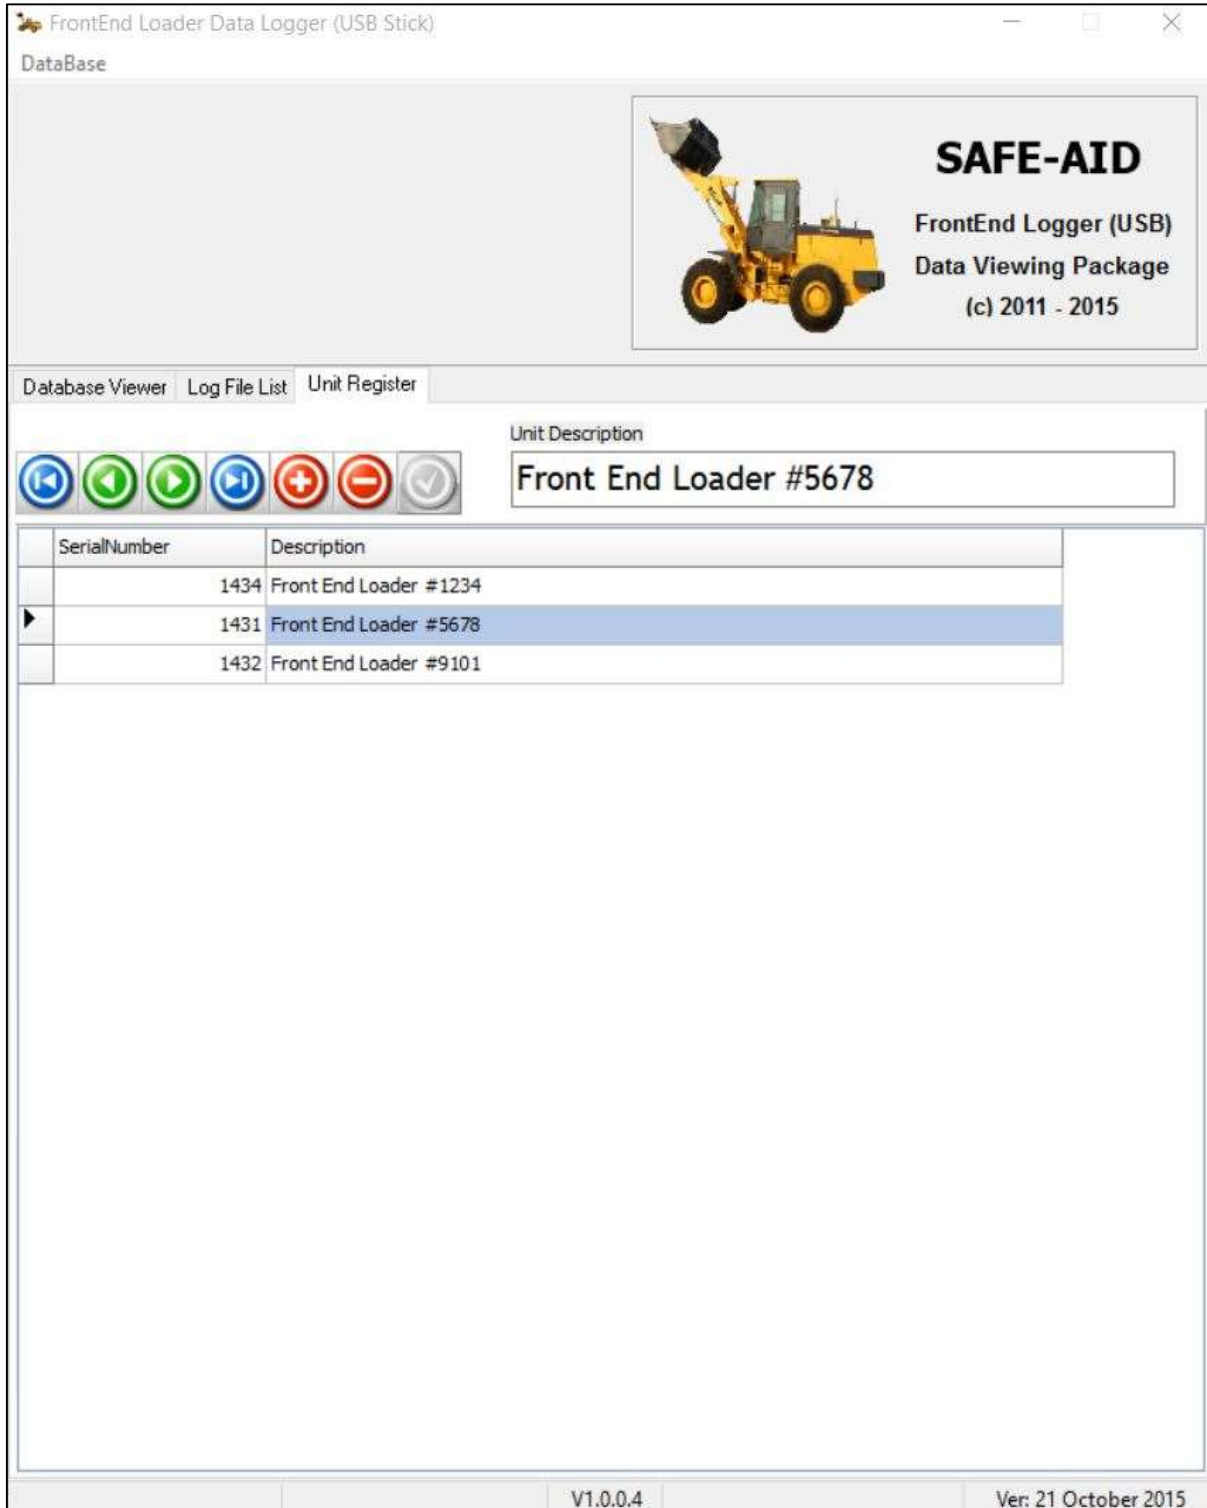

Figure 11
- Once completed the PC should have a list of all the TS350 serial numbers and their relevant descriptions (**Figure 11**).